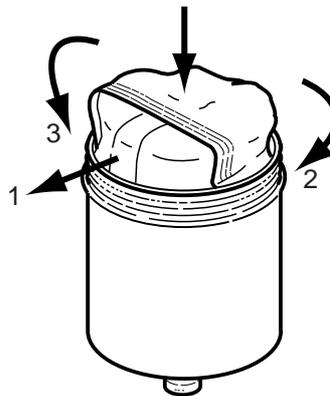

Figure 2.
- * Put it into the case by pushing it while pulling the seam(1) to puff out the pack and fold the both top corners (2) and (3) of the pack outside (Figure 2).